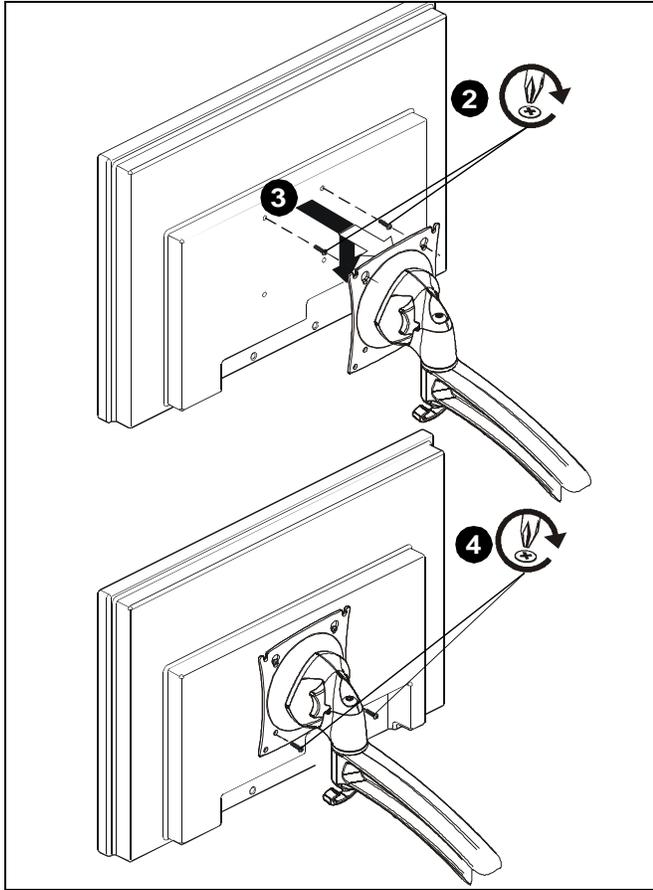

Figure 6
1. Ensure faceplate is able to swivel and tilt easily, yet still be tight enough to hold display in desired position. Adjust as required before proceeding. See "ADJUSTMENT" for detail. (See Figure 6)
2. Using Phillips screwdriver, carefully install two M4x12mm screws (B) into the *upper* mounting holes on the display. Thread screws completely into display, then back out 3 complete turns. (See Figure 6)
3. Pick up and align display so that screws (B) (installed on the back of the display in the previous step) fit into the mounting holes on the faceplate. Rotate the bracket as required. Lower the display firmly into place. (See Figure 6)
4. Using Phillips screwdriver, install two remaining M4x14mm Phillips screws (B) through the *lower* mounting holes in faceplate into the display. (See Figure 6)
5. Tighten all four screws (B). Do not overtighten!